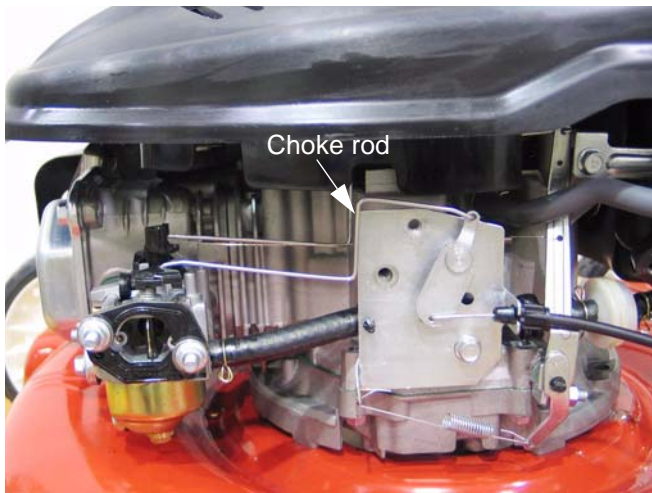

Figure 4.25
**NOTE:** The rod connecting the choke lever to the choke arm on the carburetor can be bent slightly to facilitate adjustment. See Figure 4.25.